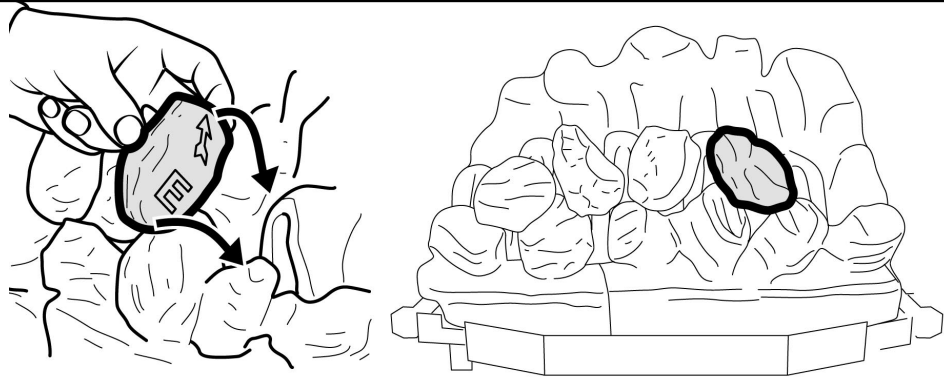

Figure 10. Second Row "Coal E"
**11.** Hold coal 'E' upright with the arrow pointing to the top. Locate coal 'E' as shown in figure 10.